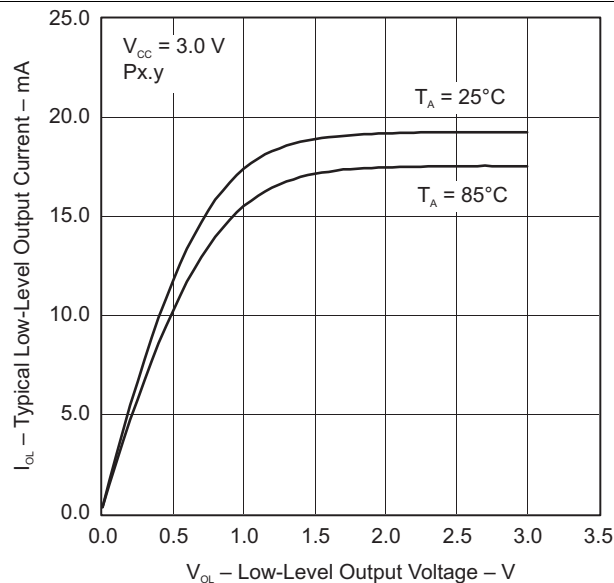
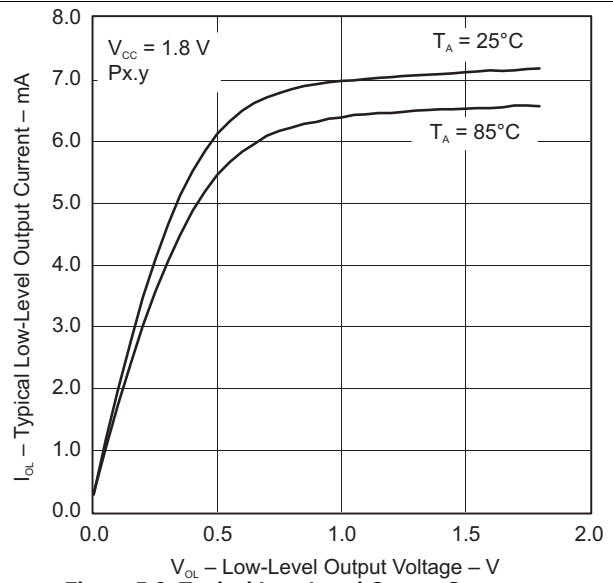

Figure 5-2. Typical Low-Level Output Current vs Low-Level Output Voltage
Figure 5-3. Typical Low-Level Output Current vs Low-Level Output Voltage
| V OL Low-level output voltage(see Figure 5-2 and Figure 5-3)  | I (OLmax) = 1 mA (2)  | 1.8 V           | V SS        | V SS + 0.25 | V    |